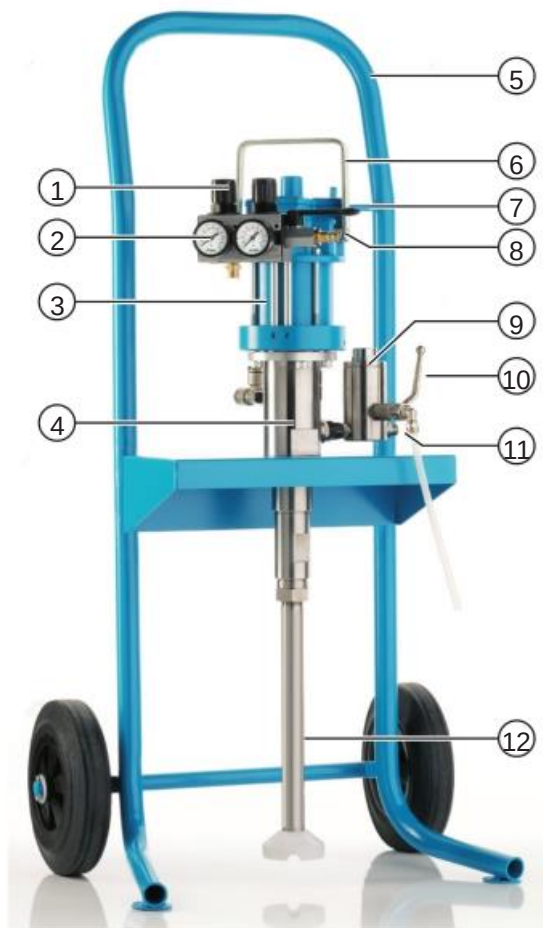

Fig. 7 AirCombi PROFIT on cart
- The unit may only be lifted by the carrying handle (Fig. 7, no. 6) or by the special eyebolt. The lifting eyes are only designed for the weight of the high pressure pump. Do not use them to lift the entire machine (including accessories, hoses or frame)!